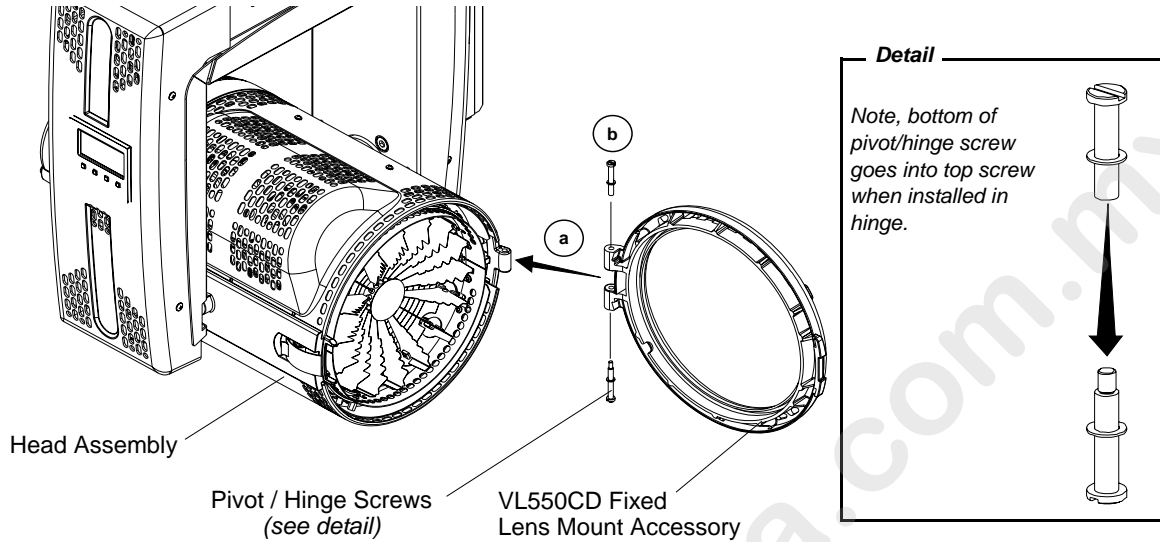

Figure A-5: VL550CD Fixed Lens Mount Accessory Installation
- a. As illustrated in Figure A-5, position fixed lens mount to mate with luminaire head hinge.